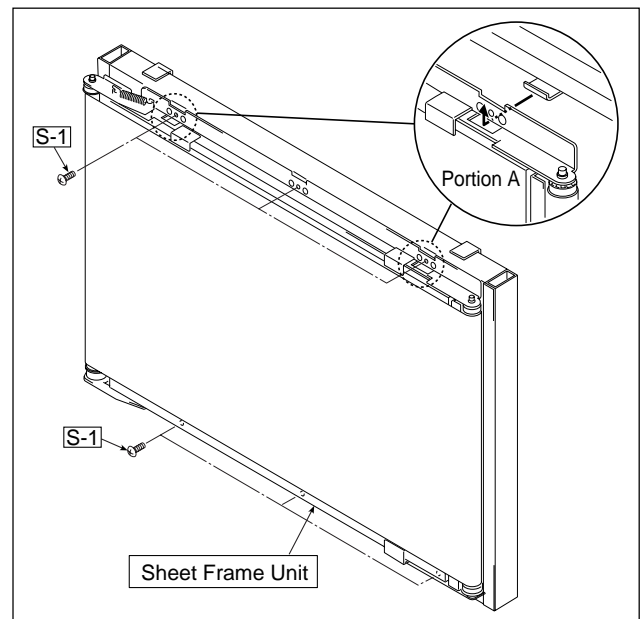

Fig. 10
- 7) Remove the Sheet Frame Unit. (See Figs. 10 and 11.)
1. Remove the "S-1" screws shown in Fig. 10.
- The Sheet Frame Unit is caught on a hook as shown in the portion A of Fig. 10.